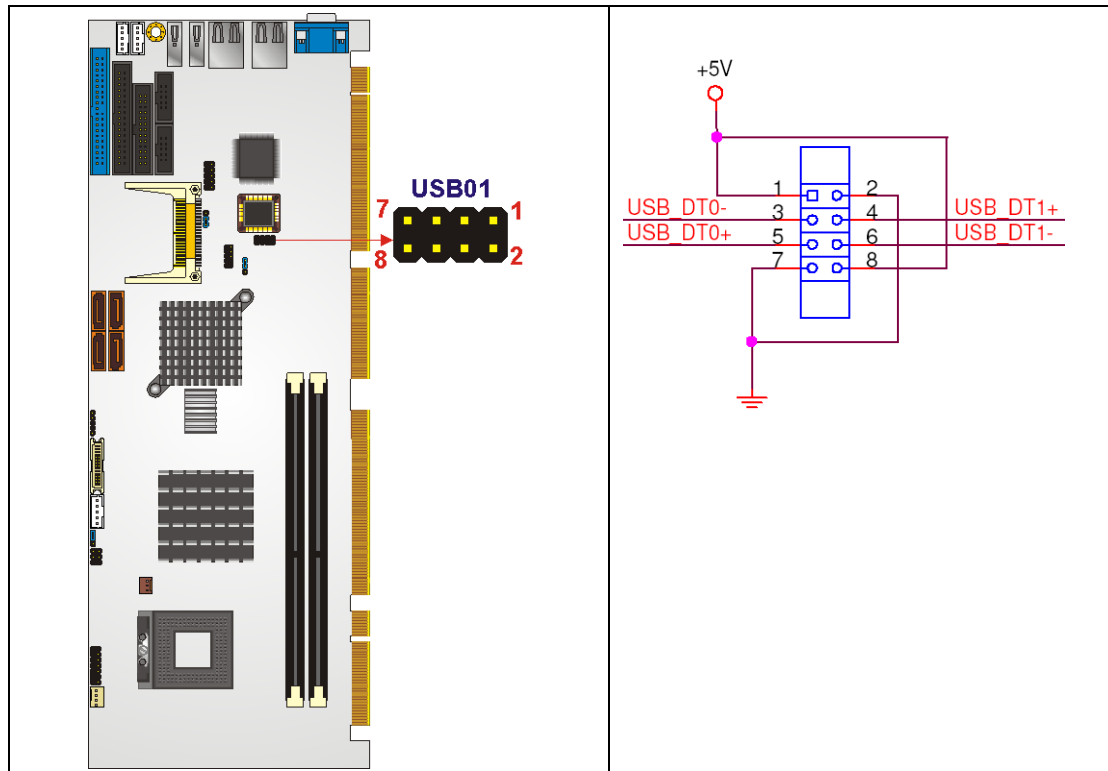

Figure 4-19: USB Connector Pinout Locations
- CN Location: See Figure 4-19